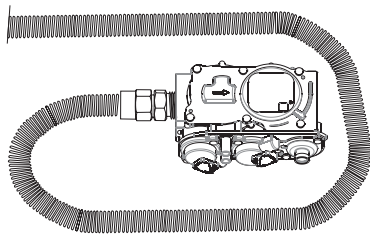

**Figure 47**
12. Plug power adaptor into receptacle in junction box inside fireplace. Connect power adaptor terminal into its receiver on the right of the burner assembly. **See Figure 47**.